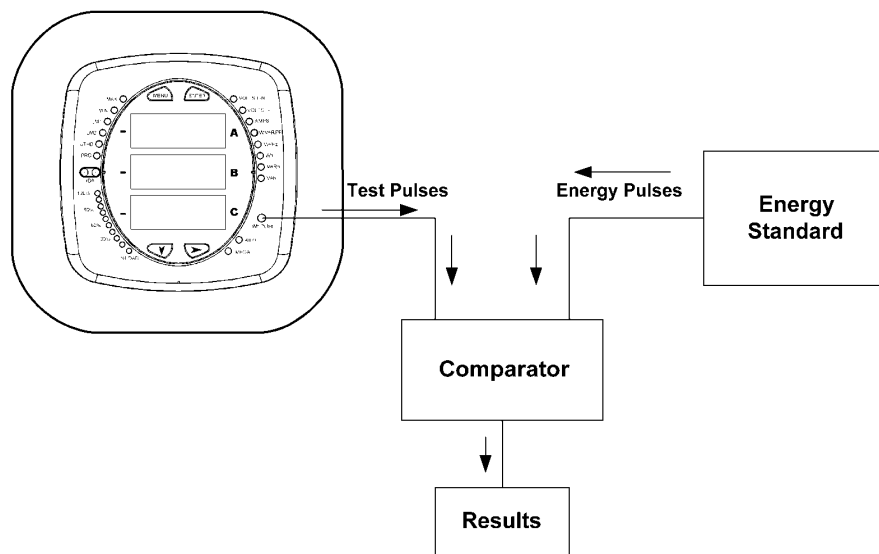

Figure 7.3: Using the Watt-Hour Test Pulse
- Refer to Figure 7.3 on the next page for an illustration of how this process works.